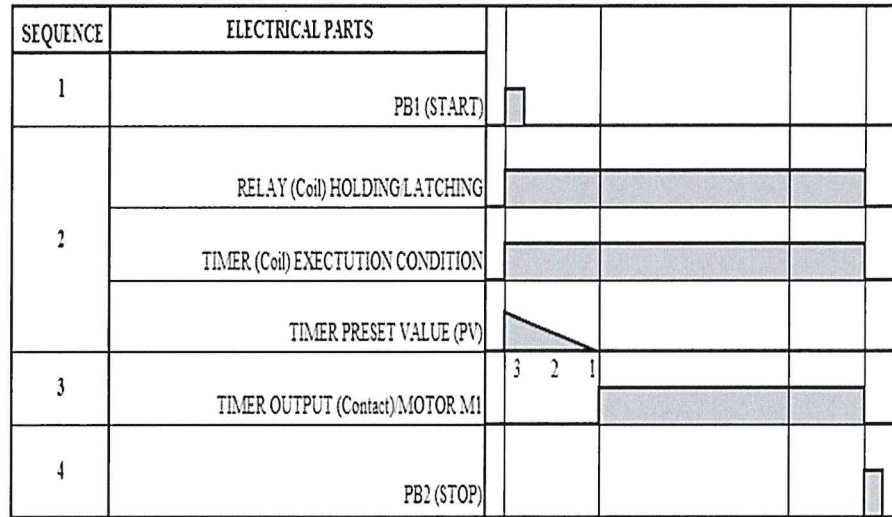

Figure A1c / Rajah A1c
c) By referring to the sequence timing chart Figure A1c, draw the conventional control sequence (RLL/hardwired diagram) of this system.